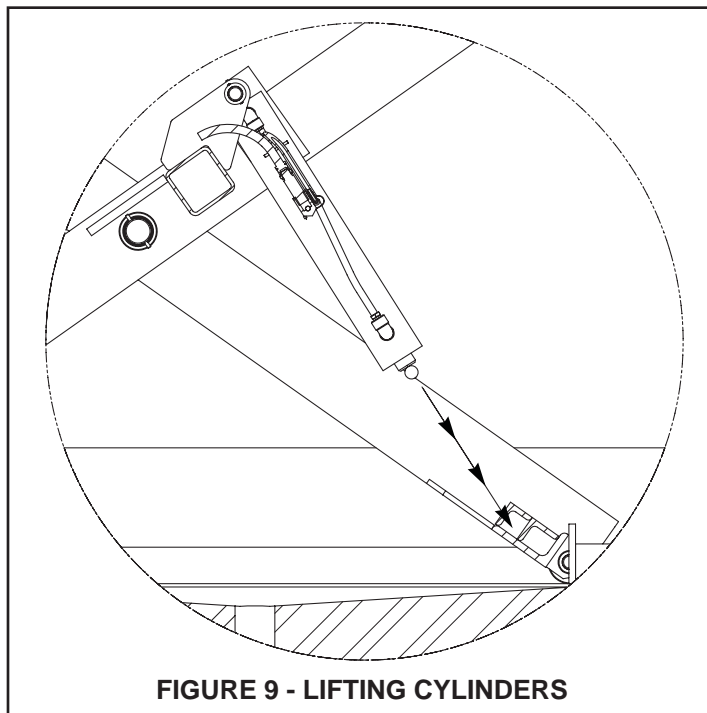

FIGURE 9 - LIFTING CYLINDERS
2. Press the RAISE pushbutton to allow the hydraulic lifting cylinders to extend their rods. Stop extending the cylinder rods just before the cylinder mounting angle. See Figure 9.
3. With someone assisting you, continue to press the RAISE pushbutton while they guide the cylinder rods into the cylinder mounting angle. See Figure 9.